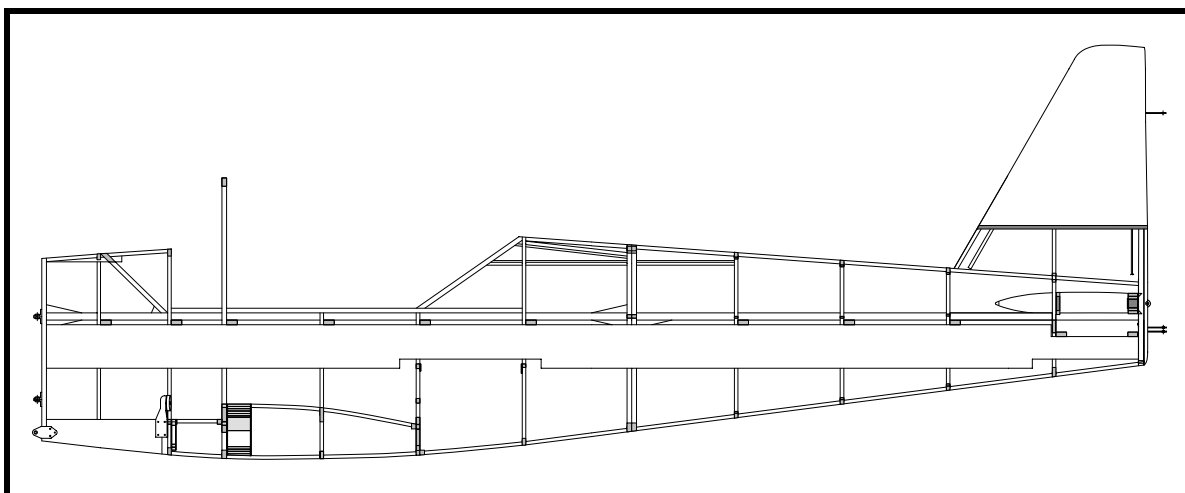

Figure 9
- ❑ Drill the three 3/16"Ø holes through the nose gear bay walls for P/N 708 nose gear upper drag strut support per Drawing No. 114. If you are going to line the nose gear bay walls with stainless steel, you must allow for its thickness. See Figure 9.